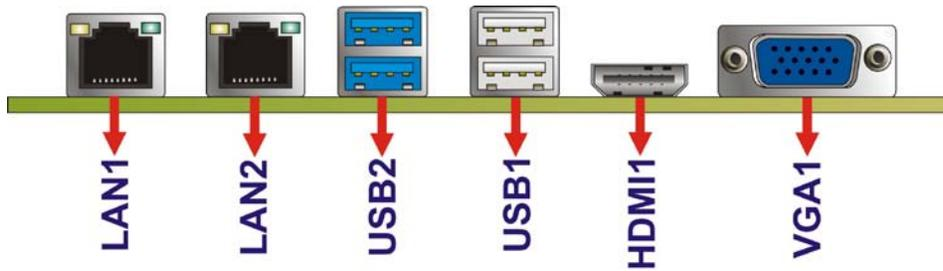

Figure 3-31: External Peripheral Interface Connector
Figure 3-31 shows the NANO-KBN-i1 external peripheral interface connector (EPIC) panel. The EPIC panel consists of the following:
- CN Location: See **Figure 3-31**